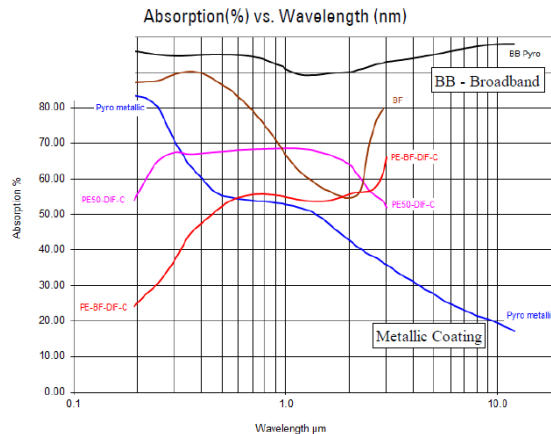

Figure 14-26 Absorption of Ophir Pyroelectric Absorbers
- **Metallic Type:** The type with no suffix in the name have a partially reflective multilayer metallic coating which absorbs approximately 50% and whose absorption graph is shown in Figure 14-26 below. The metallic coating permits very high repetition rates, up to 25000Hz as well as relatively high damage threshold.
- **Broadband Type:** The type with the BB suffix has a broadband absorbing coating to provide high absorptivity from the UV through the IR. This coating can withstand energy densities, up to 0.8J/cm² for short pulses and 2J/cm² for long pulses without changing calibration. The absorption of this coating is above 90% for most of its range, as shown in Figure 14-26 below. This coating is available for the PE50, PE25, and PE10 sensors. For even higher damage thresholds, there are the –DIF diffuser series with a diffuser in front of the absorber.